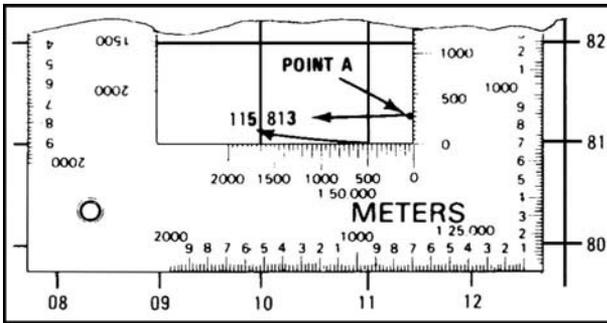

Figure 71-329-1002-7. Aligning the plotting scale
- e. To determine the correct two-letter 100,000-meter-square identifier, look at the grid reference box in the margin of the map (figure 71-329-1002-8).